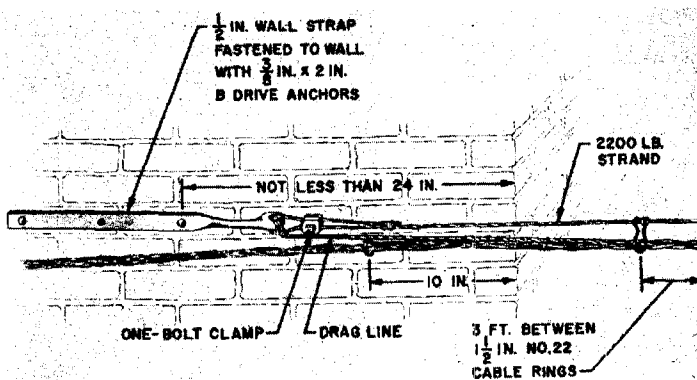

Fig. 13 - Span in Line with Wall
- 9.06** Where span exceeds lengths specified in 9.03 or 9.04, bridle wire may be run in $1\frac{1}{2}$ -inch No. 22 cable rings attached to 2200-pound strand. Space cable rings 3 feet apart. Place a drag line in the rings of the crossing span at the time they are attached. The drag line should always be replaced after it has been used for pulling wires across the aerial block wire span. This may be done at the time of pulling in additional wires by attaching a new drag line to the existing line and pulling the new line into the rings at the same time the wire is pulled in. Tie the drag line at the end of the strand. (See Fig. 13, 14, and 15.)